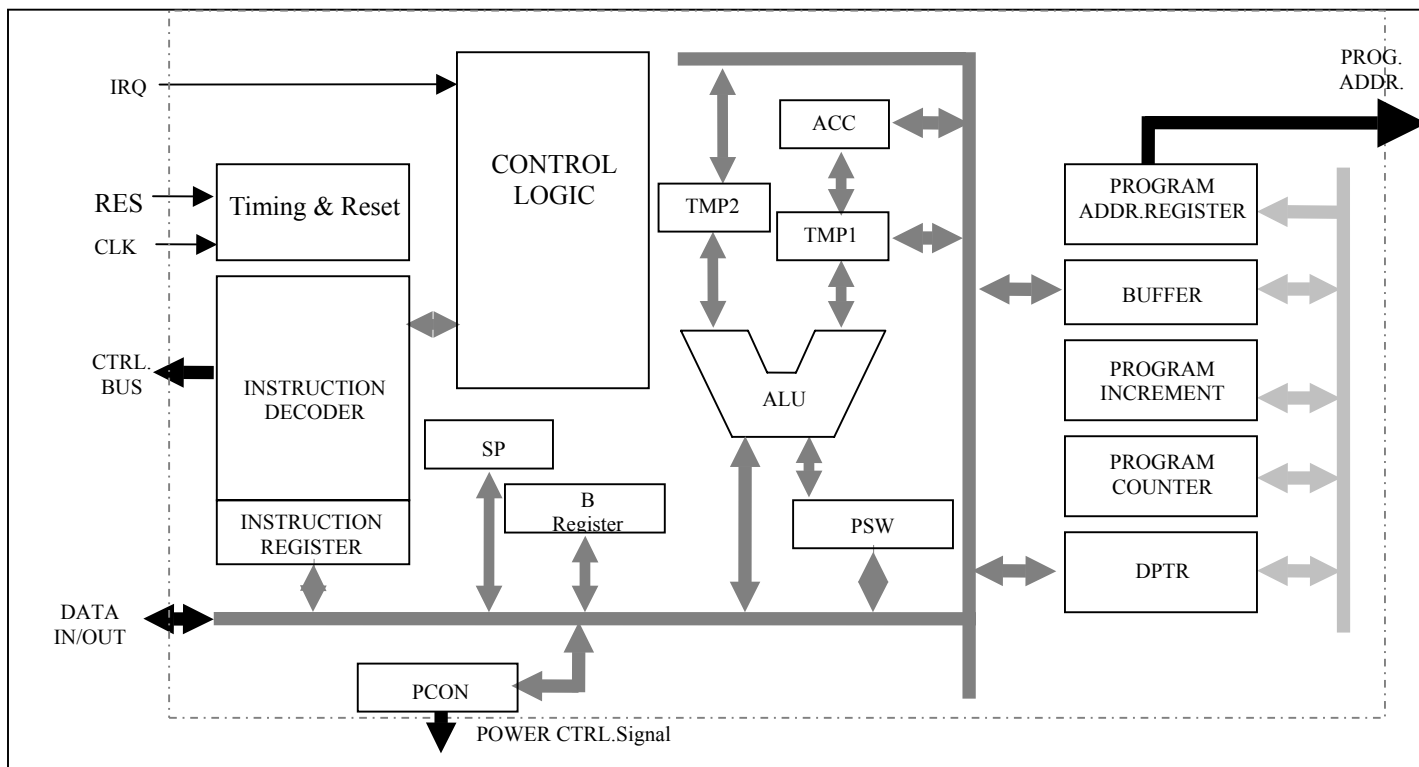

Figure 11 The CPU structure
The CPU of the CRD89C51AC is compatible to the standard 80C51. The structure of this CPU is shown as FIGURE 11. It contains Instruction Register (IR), Instruction Decoder, and Program Counter (PC), Accumulator (ACC), B Register, and control logic. This CPU provides an 8-bit bi-direction bus to communicate with other blocks on the chip. The addresses and data are transferred via the same 8-bits bus.